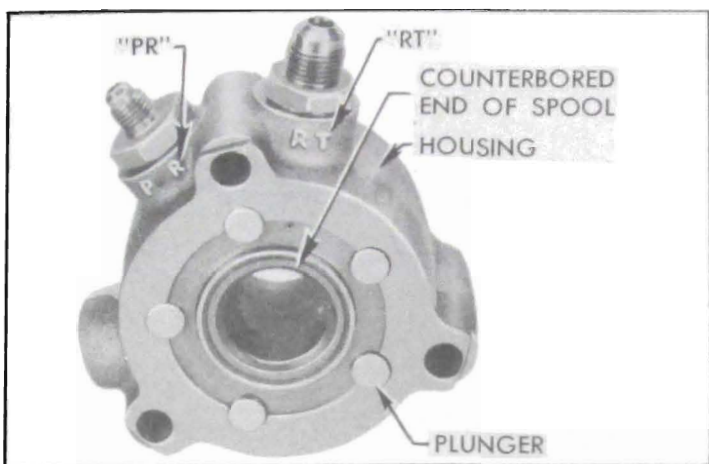

Figure 7-13—Spool Installed in Valve Housing
6. Place valve housing on bench with the return (“RT”) port to the right of the pressure (“PR”) port, then carefully install the valve spool *with the counterbored end upward* as shown in figure 7-13. **NOTE:** *The spool is a very close fit in housing and must be started carefully to avoid jamming. Do not force spool into place.*